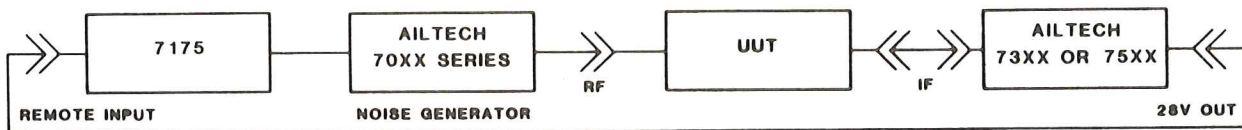

FIGURE 3-2. TYPICAL NOISE FIGURE MEASUREMENT USING THE AILTECH 7175 GAS TUBE TRIGGERABLE POWER SUPPLY
- b. A typical setup is shown in Figure 3-2.